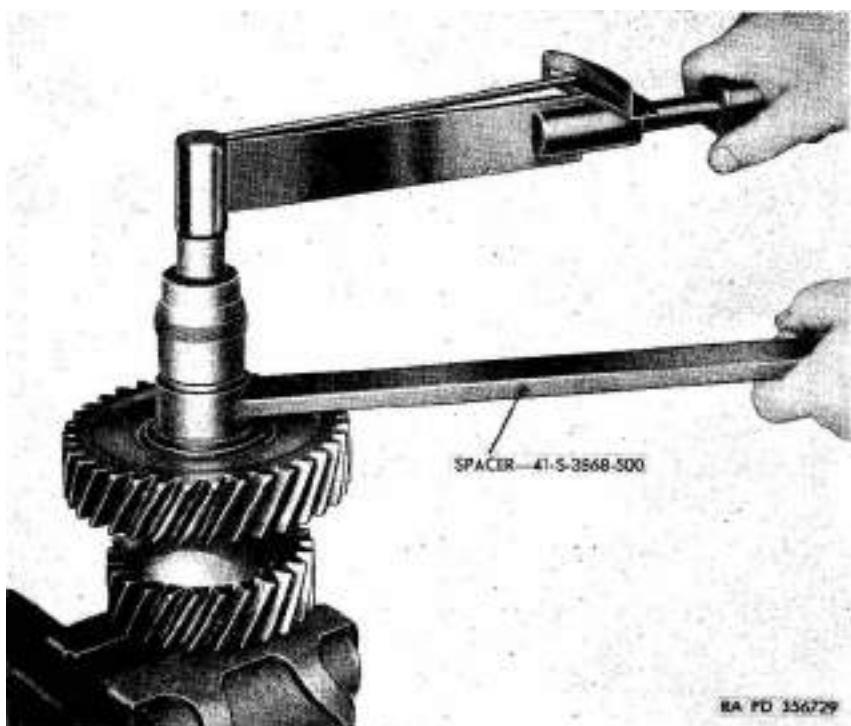

Figure 137. Location of spacer on idler gear shaft.
- (3) Place idler gear (PP) on shaft (small gear down), and install other bearing cone (RR), spacer 41-S-3868-500 (*fig. 137*), 29/32 ID, 1 $\frac{3}{4}$ OD, plain washer (UU), and $\frac{7}{8}$ -16NC slotted nut (VV).
- (4) Hold spacer 41-S-3868-500 (*fig. 137*) and tighten nut to 140 to 160 pound-feet torque with a torque indicating wrench and socket.
- (6) Remove nut, washer, and spacer 41-S-3868-500 (*fig. 137*) from idler gear shaft. Remove parts from vise and disassemble them.